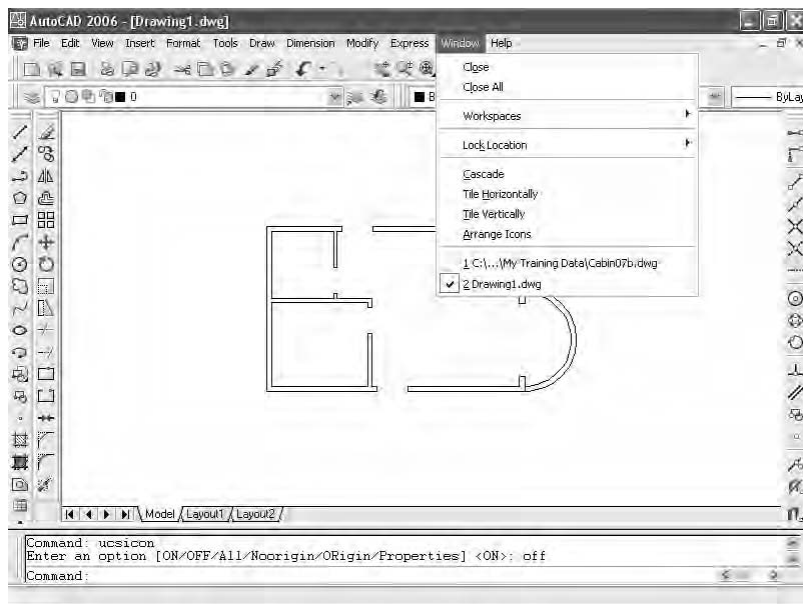

FIGURE 7.37: The Window menu with Drawing1 active
2. Click Window in the drop-down menu bar. When the menu opens, notice at the bottom that the open drawings are displayed with the active one checked (see Figure 7.37).